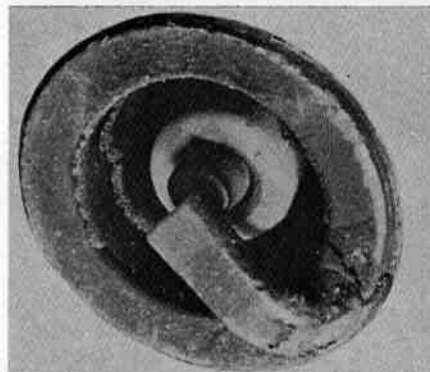
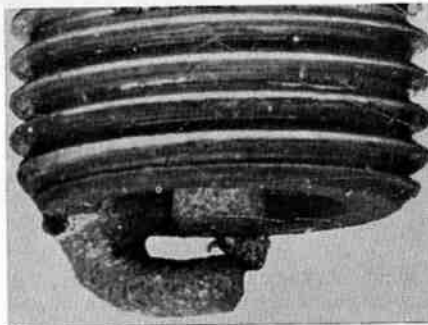

Fig. CS40 — Two cycle engine plug of correct heat range. Insulators light tan to gray with few deposits. Electrodes not burned.
Fig. CS45 — Gap bridging. Usually results from the same causes outlined in Fig. CS44.
**PLUG APPEARANCE DIAGNOSIS.** The appearance of a spark plug will be altered by use, and an examination of the plug tip can contribute useful information which may assist in obtaining better spark plug life. It must be remembered that the contributing factors differ in two-cycle and four-cycle engine operation and, although the appearance of two spark plugs may be similar, the corrective measures may depend on whether the engine is of two-cycle or four-cycle design. Fig. CS40 to Fig. CS45 are provided by Champion Spark Plug Company to illustrate typical observed conditions in Two-Cycle engines. Listed also are the probable causes and suggested corrective measures.